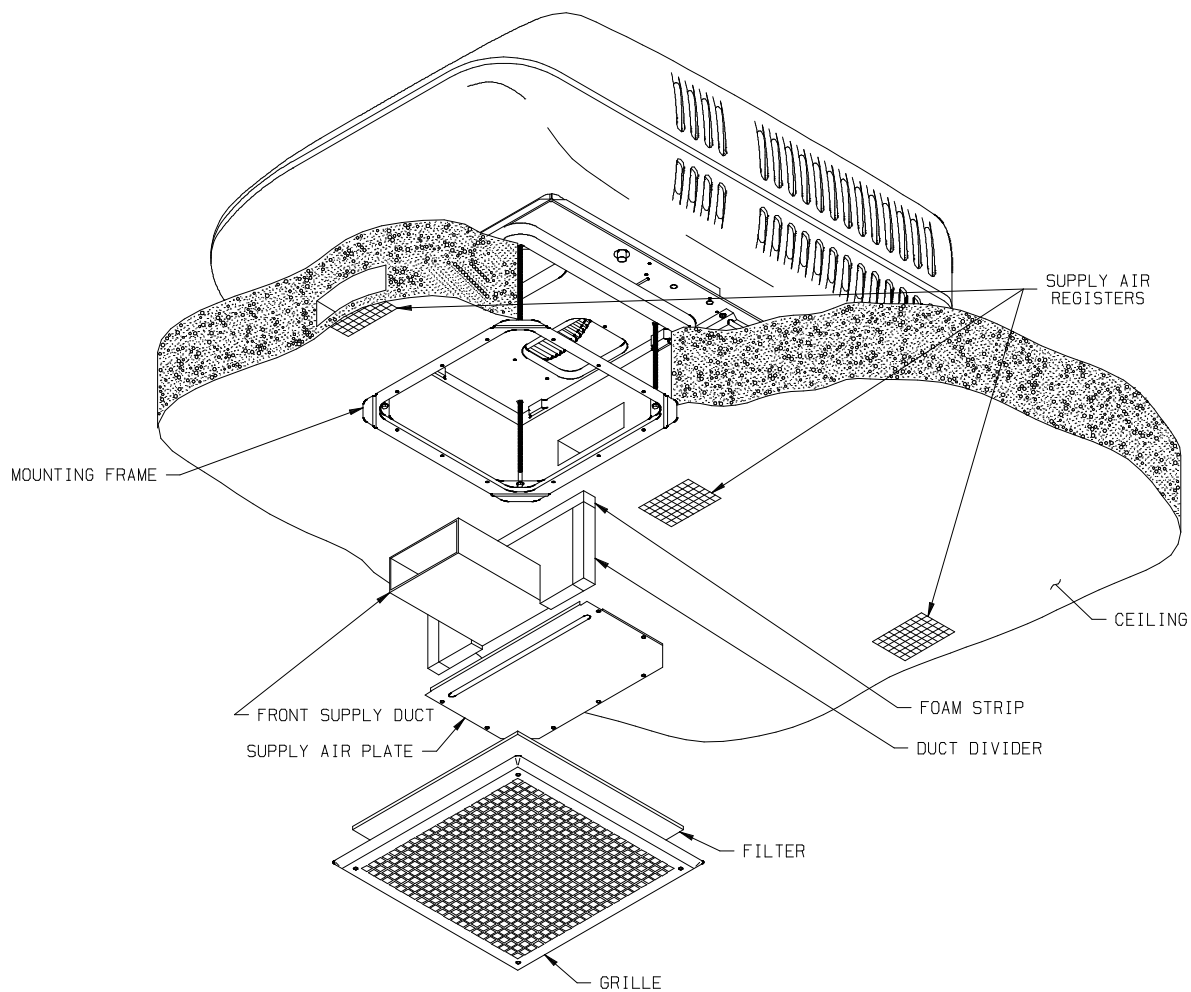

FIGURE 1
SEE FIGURE 1
1. Note that the duct divider has been pre-cut to conform to the supply duct. These pre-cuts are centered in the divider board. The board width will not need adjustment, as the attached foam allows accommodation of any width between 14" and 15". Install as shown in Figure 1.
4. Align the supply air plate under the opening. Attach with the seven screws found in the small parts package. See Figure 1.